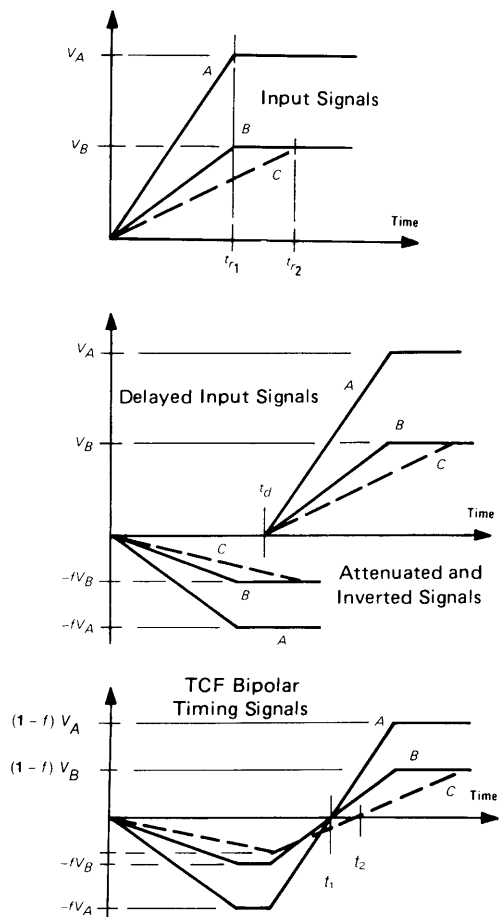

Fig. 8. Germanium Detector Signals Processed by a Conventional Constant-Fraction Discriminator.
Two factors control the intrinsic time resolution of germanium detectors: (a) variations in the charge collection time, and (b) the noise/slope effect described by Equation (10). The former so overwhelms the latter that the timing technique must be focused on overcoming the charge collection time variations, with the resulting noise/slope contribution simply being tolerated. The top diagram in Fig. 8 depicts the variation in pulse shapes observed at the preamplifier output for a germanium detector. The longest charge collection times (illustrated by pulse C) are caused by gamma rays that
charge collection time. Application of a conventional constant-fraction discriminator, as analyzed in Fig. 8, eliminates the walk caused by the difference in A and B pulse heights, but it does not eliminate the timing uncertainty caused by the difference in charge collection times between pulses B and C. The constant-fraction zero-crossing signals for pulses B and C cross the baseline at different times, t_1 and t_2 .